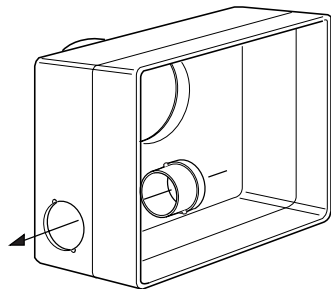

Fig. 4a. Fitting a subsidiary spigot
- c) If a second room is to be served, remove the appropriate weakened area from either cover and working from the inside fit the subsidiary inlet spigot by passing it through the case and turning quarter of a turn to lock. Fig. 4a and 4b. Remove the relevant cable entry in the back of the casing.